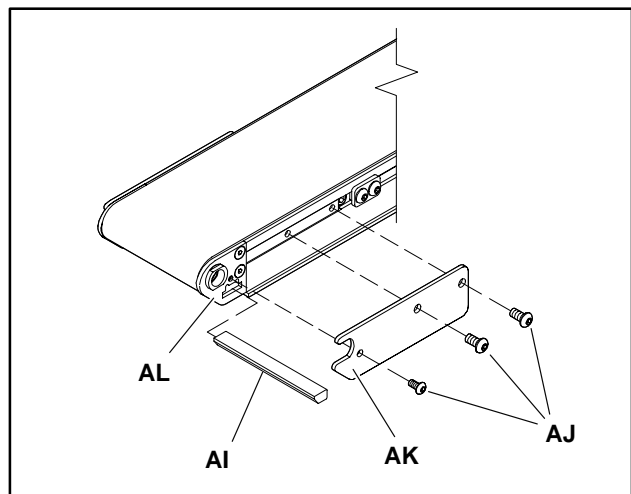

Figure 14
1. From the discharge end, remove tail cover plate screws (AJ of Figure 14) from one side of the conveyor.
2. Remove tail cover plate (AK).
3. Slide bottom wiper (AI) through side slot of tail plate (AL).